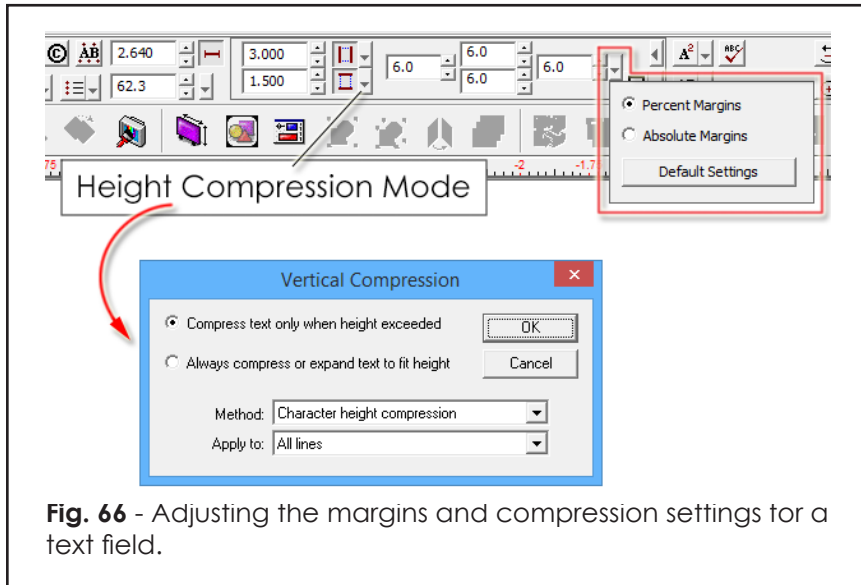

Fig. 66 - Adjusting the margins and compression settings for a text field.
10. Set the margins to **Percent Margins**, and set each margin to a 6.0 value (Fig. 66).